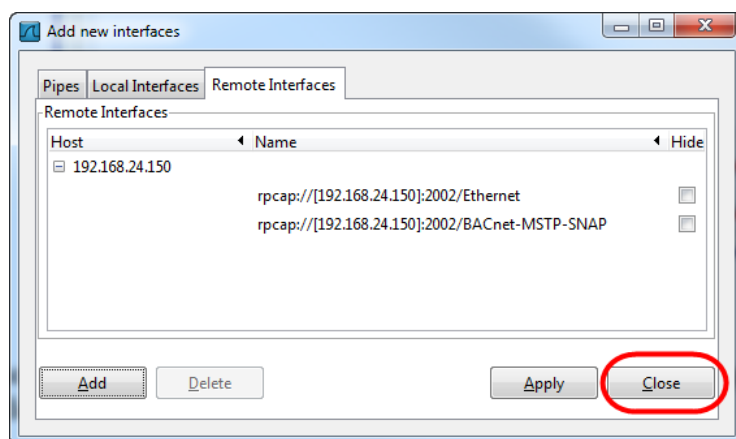

Figure 247: Added new interface to Wireshark.
7. If the connection to the device was established successfully, the **Remote Interfaces** list will be updated with information about all capture ports available on the device as shown in Figure 247.